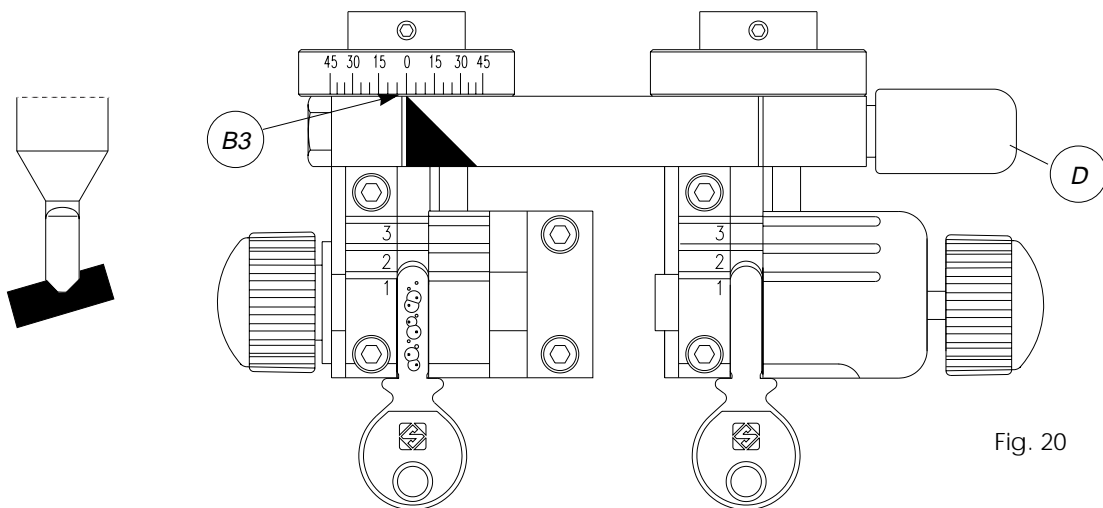

Fig. 20
- loosen lever (D) to release the clamps and incline these to the angle required (see index (B3) on the graduated drum) (Fig.20).
- secure the clamps with lever (D).